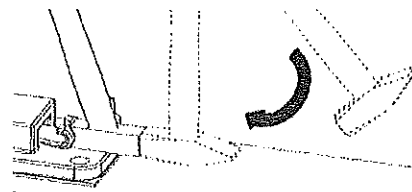

Fig. 26-Drive IFAST spring with installation tool into position
3. Drive IFAST spring with a hammer and the anvil top tool until the end of the spring is in contact with the slide chair, Fig. 26.